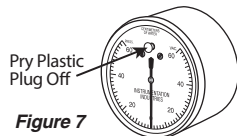

Figure 7
1. Carefully pry out Plastic Plug from the crystal. (Figure 7)